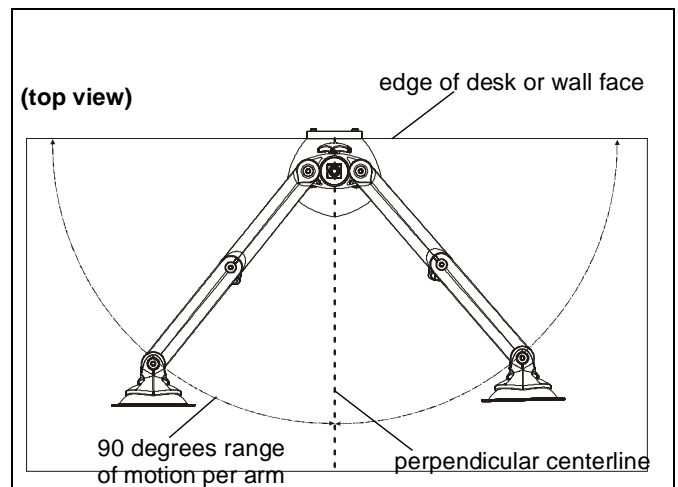

Figure 13
1. Adjust arm angles as desired within a 90 degree range from the edge of desk or wall and a perpendicular centerline of mount. (See Figure 13)